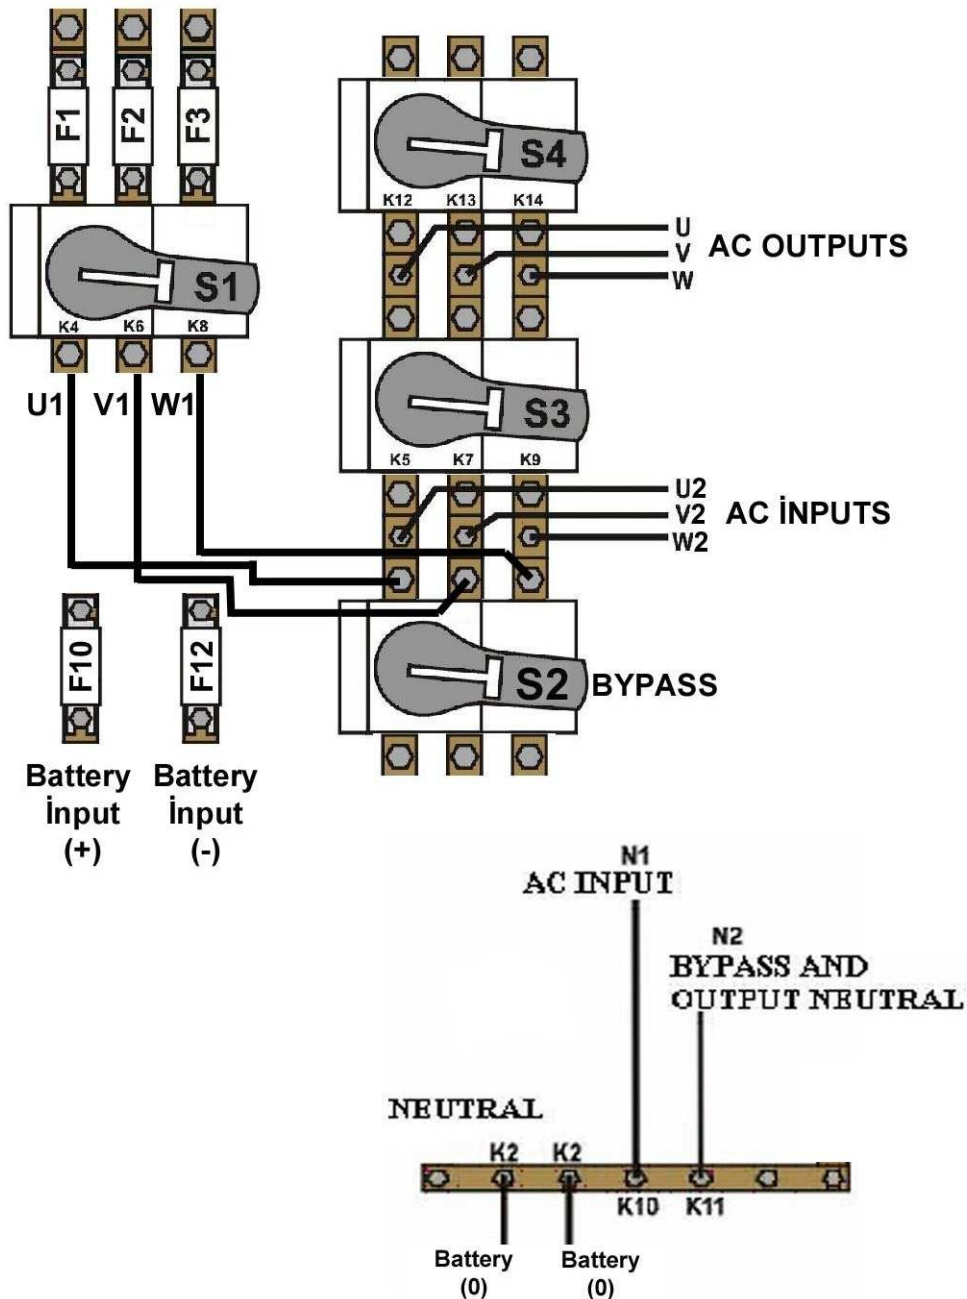

Figure 2.2 100-120-160 kVA POWER Cable Connection
Descriptions of the UPS input output cable connection terminals are shown in figure 2.2
2. Connect the 3 phase AC input coming from the mains distribution panel to the AC input terminals as shown on the label. (Figure 2.2)